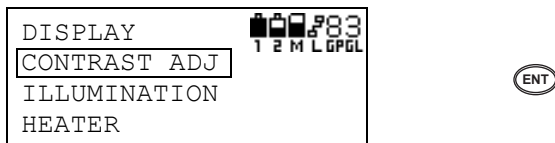

Figure 3-135. Select Contrast Setting
3. On the Display screen, press **ENT** to select CONTRAST ADJ (Figure 3-135).